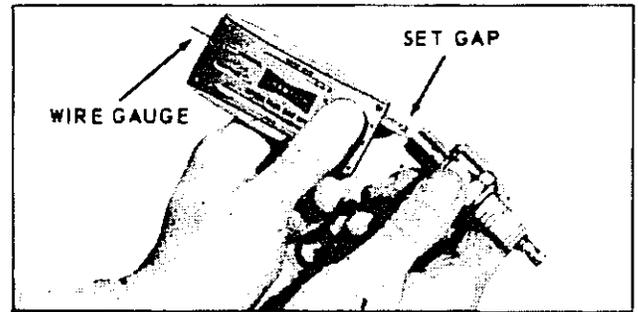

FIG. 16
1. Align rotor with *center of notch* in distributor housing (location of No. 1 terminal tower). Mount unit in place so that the notch is in an approximate 10 o'clock position. See Fig. 16. This applies to either distributor mounting — to the end of generator frame or adapter housing on gear cover.